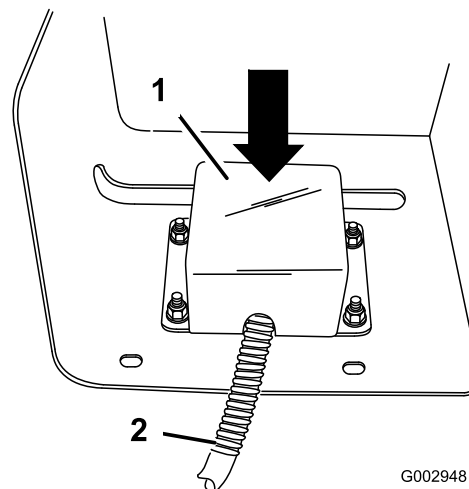

Figure 30
16. Install the switch wire cover over the switches and around the wires (Figure 30) and secure it with 4 flange-head bolts (1/4 x 3/4 inch) and 4 flange nuts (1/4 inch).